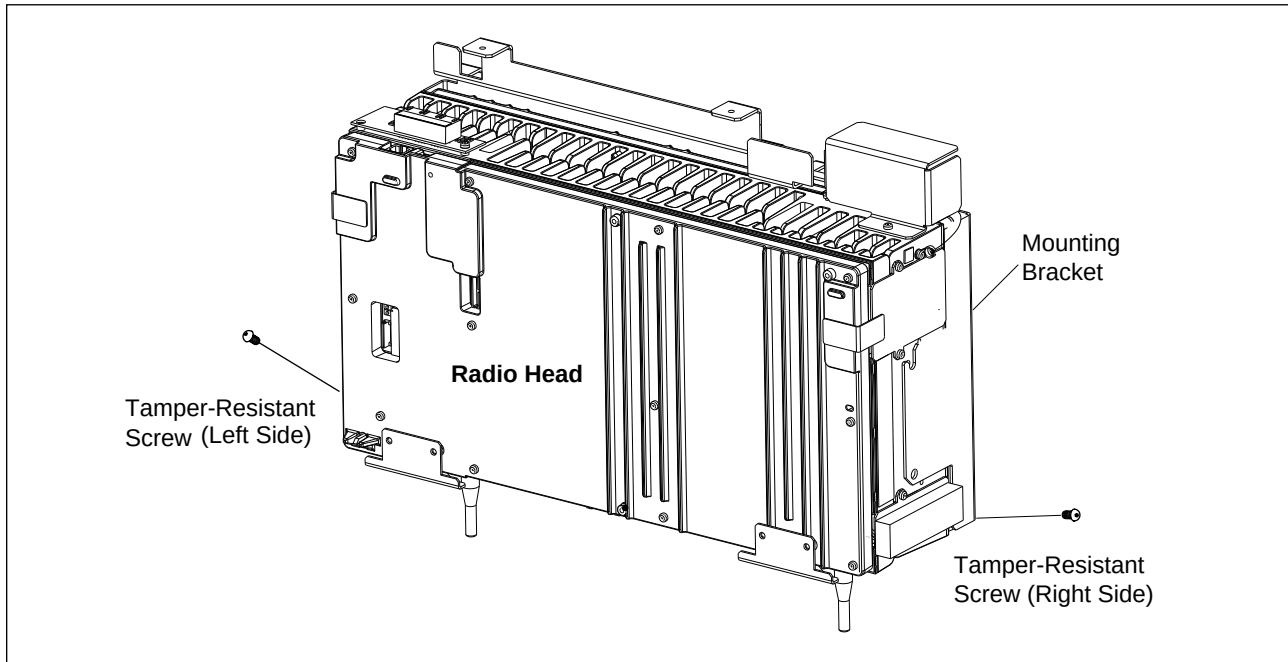

Figure 6-17. Radio Head with Mounting Bracket and Mounting Screws
9. Using a Torx driver tool provided in the Radio Head Hardware Kit (NTM 201 1581), remove the two lower tamper-resistant screws on each side of the Radio Head that secure it to the mounting bracket. See Figure 6-17 on page 6-46 for the location of the lower tamper-resistant screws.